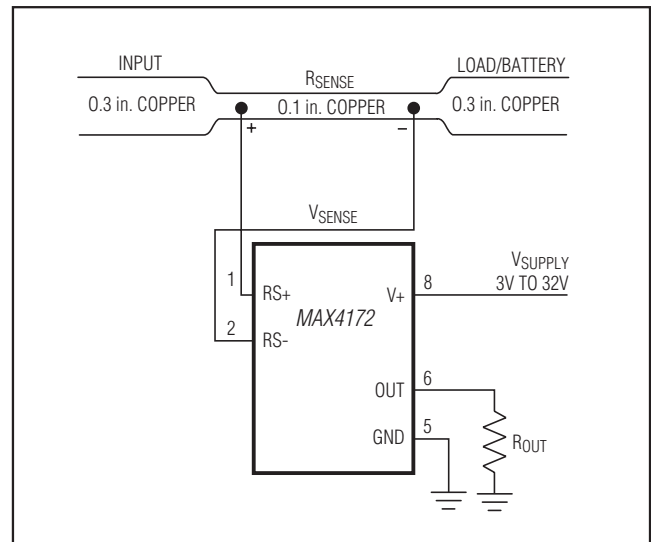

Figure 2. MAX4172 Connections Showing Use of PC Board
- Cost:** If the cost of R_{SENSE} is an issue, you might want to use an alternative solution, as shown in Figure 2. This solution uses the PCB traces to create a sense resistor. Because of the inaccuracies of the copper resistor, the full-scale current value must be adjusted with a potentiometer. Also, copper's resistance temperature coefficient is fairly high (approximately 0.4%/°C).
In Figure 2, assume that the load current to be measured is 10A, and that you have determined a 0.3-inch-wide, 2-ounce copper to be appropriate. The resistivity of 0.1-inch-wide, 2-ounce (70 μ m thickness) copper is 30m Ω /ft. For 10A, you might want $R_{SENSE} = 5\text{m}\Omega$ for a 50mV drop at full scale. This resistor requires about 2 inches of 0.1-inch-wide copper trace.